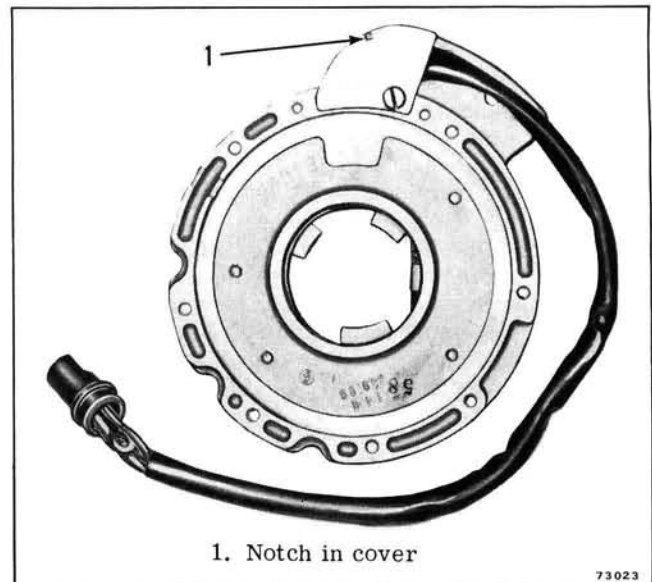

Figure 4-40. Bottom of Armature Plate
d. Remove the cover from the bottom of the armature plate. See Figure 4-40.
f. Slide the insulation sleeve to the armature plate to protect the coil leads, and install the cover on the bottom of the armature plate. Line up the notch in the plate with the notch on the cover during installation. See Figure 4-40.